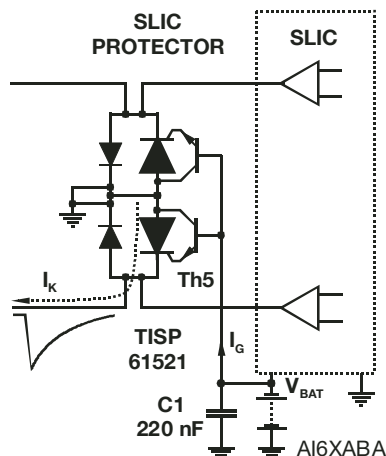
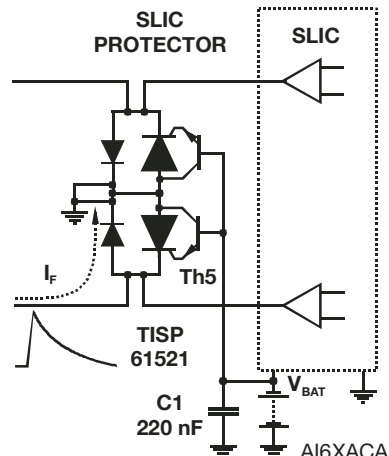
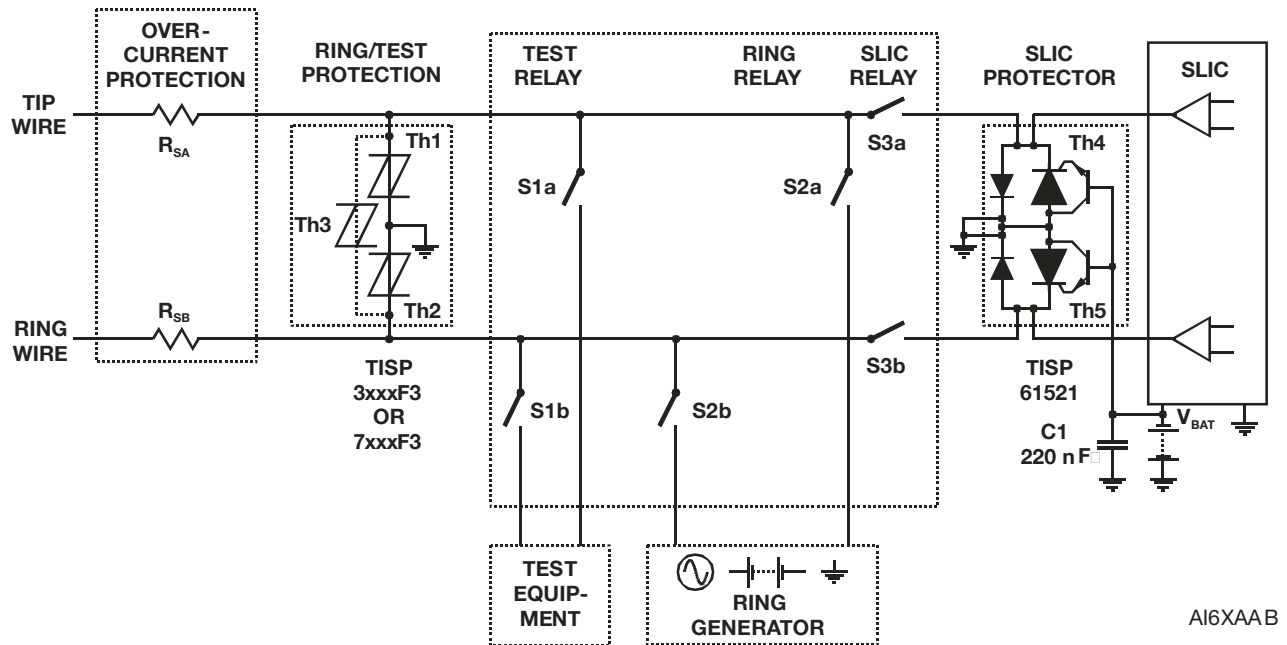

Figure 3. Negative Overvoltage Condition
Figure 4. Positive Overvoltage Condition
Figure 6. Typical Application Circuit
SLICs have become more sophisticated. To minimize power consumption, some designs automatically adjust the driver supply voltage to a value that is just sufficient to drive the required line current. For short lines, the supply voltage would be set low, but for long lines, a higher supply voltage would be generated to drive sufficient line current. The optimum protection for this type of SLIC would be given by a protection voltage which tracks the SLIC supply voltage. This can be achieved by connecting the protection thyristor gate to the SLIC  $V_{BATH}$  supply, Figure 3. This gated (programmable) protection arrangement minimizes the voltage stress on the SLIC, no matter what value of supply voltage.
Figure 3 and Figure 4 show how the TISP61521 limits negative and positive overvoltages. Positive overvoltages (Figure 4) are clipped by the antiparallel diode of Th5 and the resulting current is diverted to ground. Negative overvoltages (Figure 3) are initially clipped close to the SLIC negative supply rail value ( $V_{BATH}$ ). If sufficient current is available from the overvoltage, then Th5 will switch into a low voltage on-state condition. As the overvoltage subsides, the high holding current of Th5 prevents d.c. latchup. The protection voltage will be the sum of the gate supply ( $V_{BATH}$ ) and the peak gate-cathode voltage ( $V_{GK(BO)}$ ). The protection voltage will be increased if there is a long connection between the gate decoupling capacitor, C1, and the gate terminal. During the initial rise of a fast impulse, the gate current ( $I_G$ ) is the same as the cathode current ( $I_K$ ). Rates of 70 A/ $\mu$ s can cause inductive voltages of 0.7 V in 2.5 cm of printed wiring track. To minimize this inductive voltage increase of protection voltage, the length of the capacitor to gate terminal tracking should be minimized. Inductive voltages in the protector cathode wiring will also increase the protection voltage. These voltages can be minimized by routing the SLIC connection through the protector as shown in Figure 6.
Figure 6 shows a typical TISP61521 SLIC card protection circuit. The incoming line conductors, Ring (R) and Tip (T), connect to the relay matrix via the series overcurrent protection. Fusible resistors, fuses and positive temperature coefficient (PTC) resistors can be used for overcurrent protection. Resistors will reduce the prospective current from the surge generator for both the TISP61521 and the ring/test protector. The TISP7xxxF3 protector has the same protection voltage for any terminal pair. This protector is used when the ring generator configuration may be ground or battery-backed. For dedicated ground-backed ringing generators, the TISP3xxxF3 gives better protection as its inter-conductor protection voltage is twice the conductor to ground value.